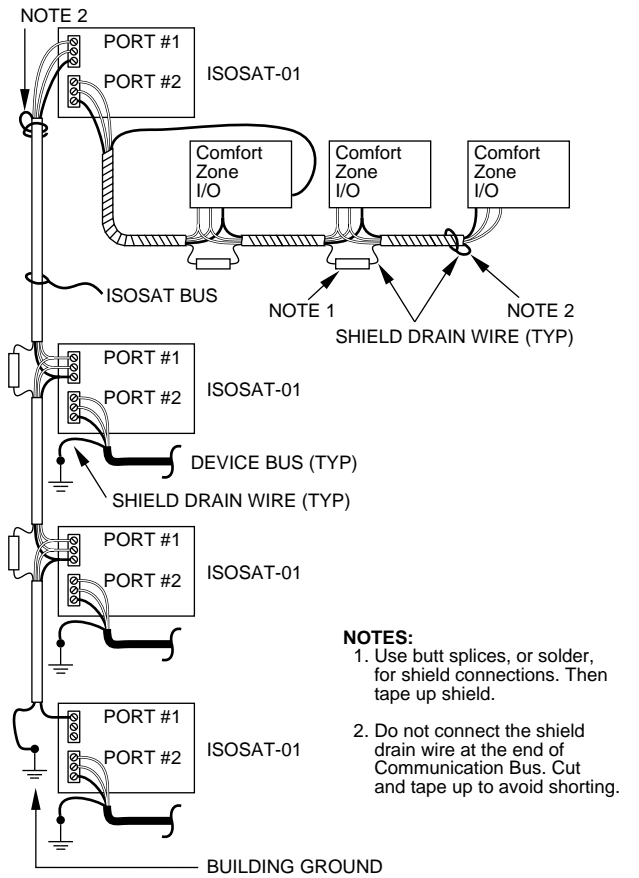

Fig. 3—Typical Communications Network
3. If more than 4 systems are used on 1 job, multiple device buses must be used. Each device bus must be separated by an ISOSAT-01. A typical arrangement is shown in Fig. 3.